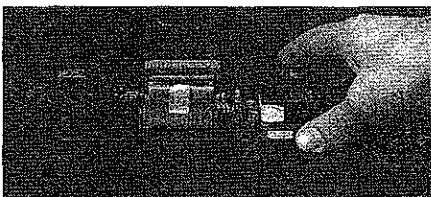

Figure 35
3. Place the Display PCB with the conductor pads face down (on a clean soft, surface), so that the display cable is **facing you**. (see Figure 35).